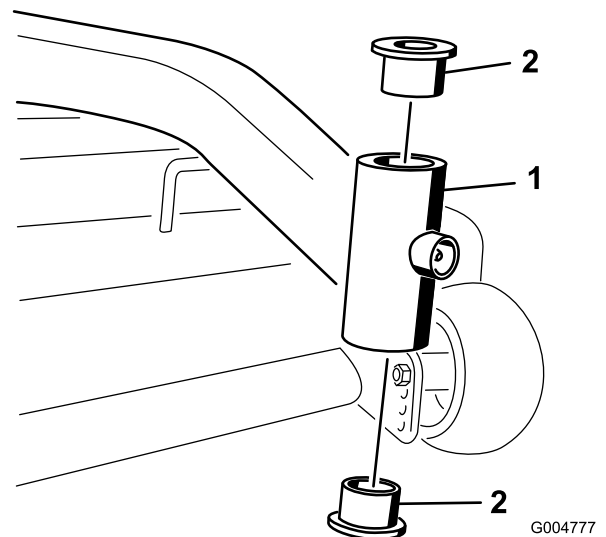

Figure 44
4. Insert a pin punch into the mounting tube and carefully drive out the bushings (Figure 44). Clean the inside of the mounting tube.